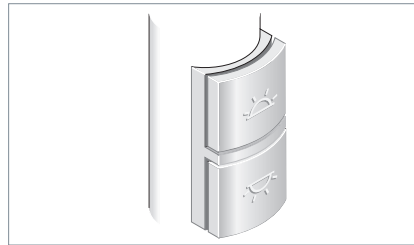

Fig. 17: Operating element with separately operated light (optional).
- Operating element with separately operated light (optional), see Fig. 17
- Press the upper switch, see Fig. 17.
- Press the lower switch, see Fig. 17.
- Press the upper switch and keep it depressed, see Fig. 17.
- Press the lower switch and keep it depressed, see Fig. 17.